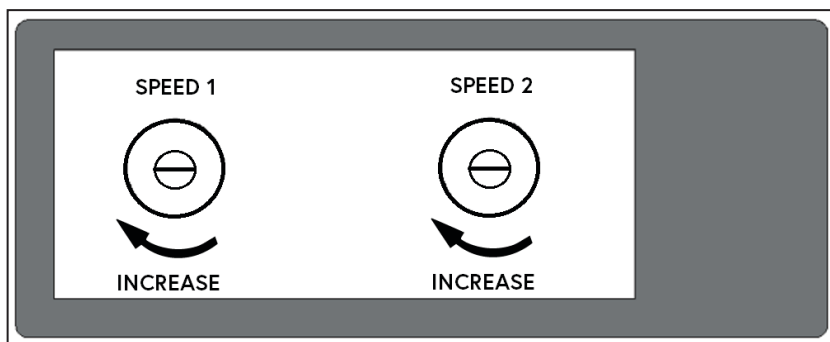

Figure 38 — 2 speed throttle adjustments
Turn the screws counterclockwise to decrease engine speed or clockwise to increase engine speed (Figure 38).
- ☐ Turn the "SPEED 1" adjustment screw clockwise to increase engine speed and counterclockwise to decrease engine speed (Figure 38 on page 61).
- ☐ ADJUST the "SPEED 2" adjustment screw clockwise to increase engine speed and counterclockwise to decrease engine speed (Figure 38 on page 61).